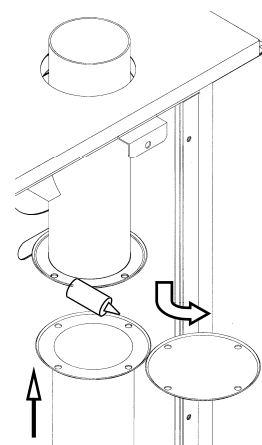
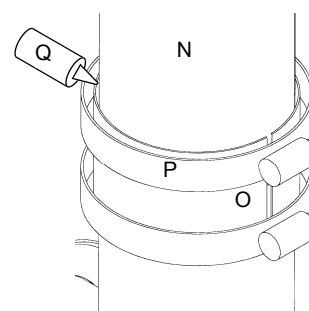

Figure A.7
Figure A.8
- 1) Remove legs / feet from top unit and place onto bottom unit (on stacking assembly) secure using 2 screws (K) in each corner of the unit (at front and back down from the sides).
- 2) Remove the RH double stack side (I).
- 4) Secure vent extension (N) with 3 screws (screw closest to oven is inaccessible), using sealant provided (Q) to ensure sealed connection. See Figure A.7.
- 5) Refit the RH double stack side (I).
- 7) Place connection sleeve (O) over join in vent using plenty of sealant (Q) between vent and sleeve, and secure using hose clamps (P). See Figure A.8.